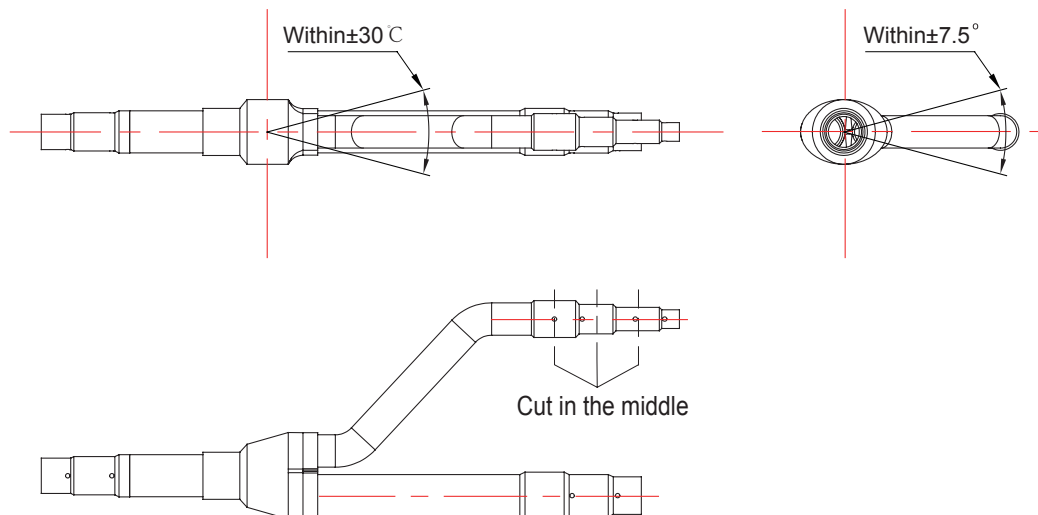

Fig.31
- (2) Y-type manifold has several pipe sections with different pipe size, which facilitates to match with various copper pipe. Use pipe cutter to cut in the middle of the pipe section with different pipe size and deburr as well. See Fig.31.
- (3) Y-type manifold must be installed vertically or horizontally.